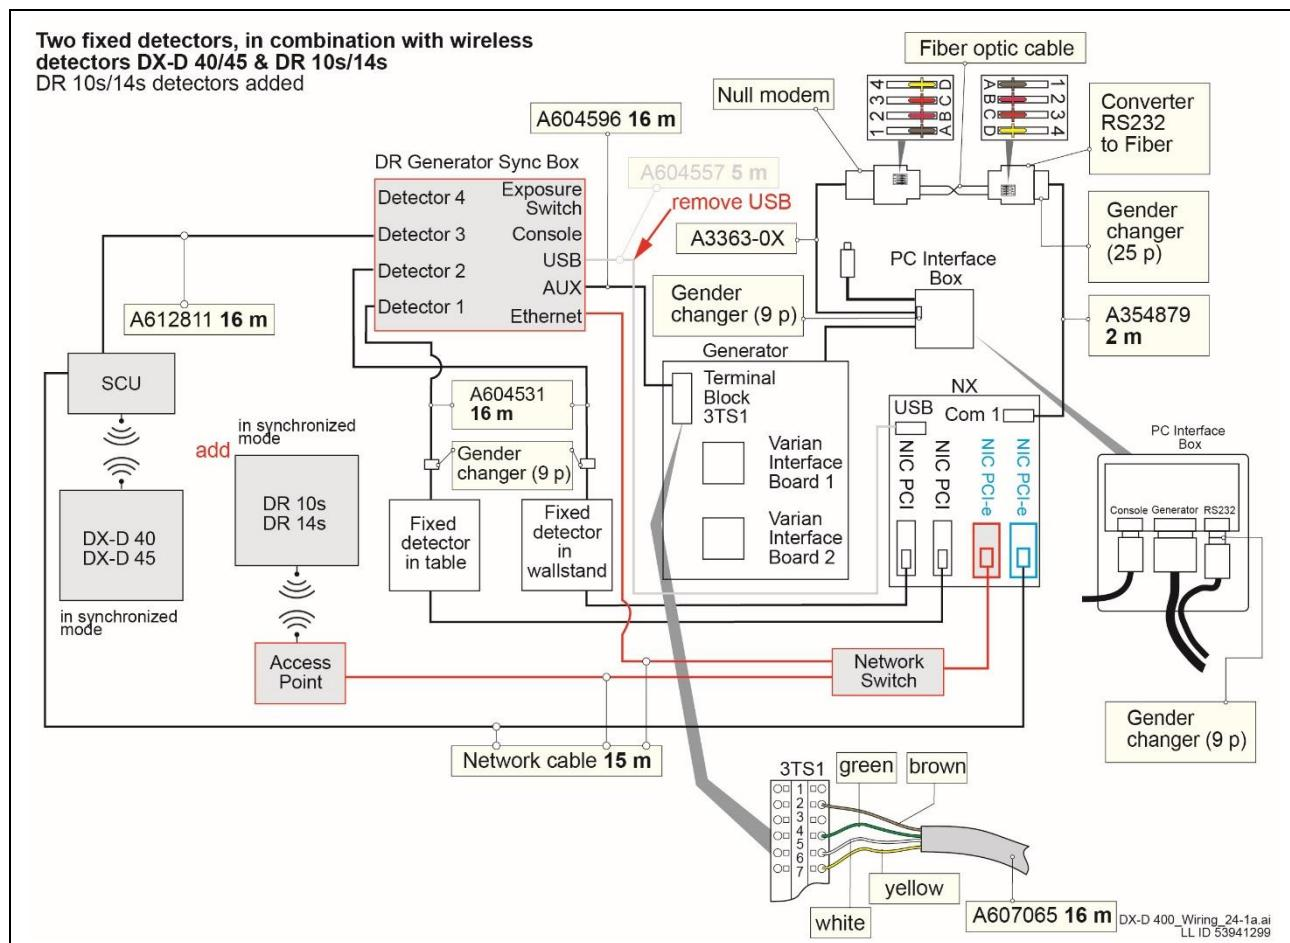

Figure 17: Digital system – DR 10s/14s detector added to installed DX-D 40/45 detectors
- Wiring diagram for digital systems (2 fixed detectors), refer to Figure 17.
- (7) Configure the NX.